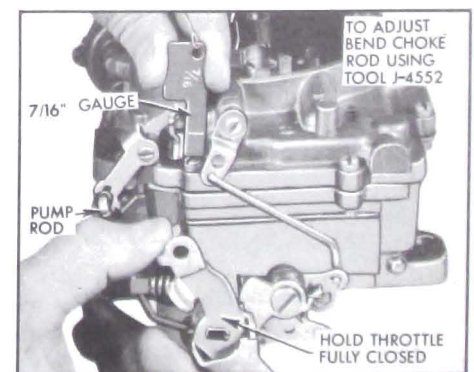

Figure 3-85—Pump Adjustment
3. Adjust Pump. Push fast idle cam aside and back out throttle stop screw until throttle valves seat in throttle bores. With pump rod in center hole, measure from air horn to top of plunger shaft with scale. Bend pump rod at lower angle as required to obtain 7/16" measurement using Tool J-4552. See Figure 3-85. Turn throttle stop screw in (from fully closed throttle position) 3/4 turn which should provide an initial idle adjustment.